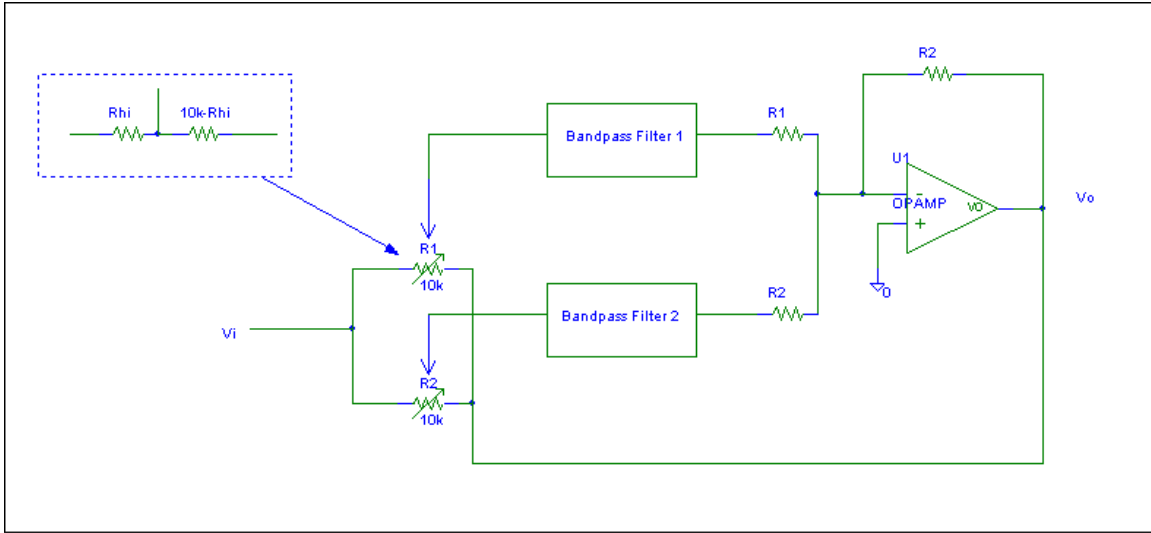

Figure 1. Graphic Equalizer uses multiple active filters within a single feedback loop
Often the individual filter channels are made of Opamps or OTAs, low-Q, bandpass filters. These are usually placed inside the feedback loop of an operational amplifier as shown in Fig.1. This feedback provides a 'boost' or 'cut' operation where each slide control provides a flat response in the middle of its range and provides progressively more emphasis or de-emphasis as the limits of the slider are approached.
e) After designing both filters, construct Fig 1. **Hint** : You may need to put an unity gain buffer before each input to the Bandpass filter. The variable resistor (10k pot) R1 and R2 can be modeled with two resistors connected in series as in Fig.1, e.g. with R1 represented by Rhi1 and the other is 10k-Rhi1. Varies Rhi1 in steps of 2k from 1k to 9k while keeping R2 fixed at Rhi2 = 1k. Provide AC magnitude
- Build and test figure 1 using the **Elliptical** approximations (be sure that the TA verifies your circuit for proper operation).